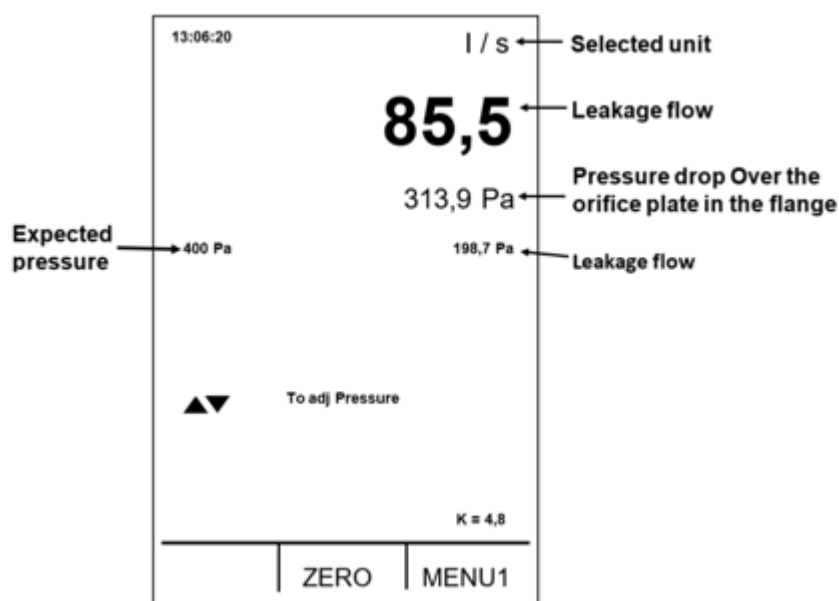

Fig. 7 Measuring
2. In measuring mode the display shows 4 measuring parameters. The largest digits at the top show the actual leakage flow (in l/s, m³/h, l/sm² or m³/hm² depending on the selected unit), below the actual leakage flow, It is shown the pressure drop over the orifice plate in the flange used to calculate the actual leakage flow. The two pressures shown below the pressure drop, and with small digits, are the expected pressure value at the left and the read value (actual value) of the measured pressure to the right. (See Fig. 7) below.
3. Press the arrow keys UP/DOWN to adjust the value of the pressure to be measured, wait until Swema 3000md is stabilized at the read value (true value) of the pressure. (See Fig. 7) below.